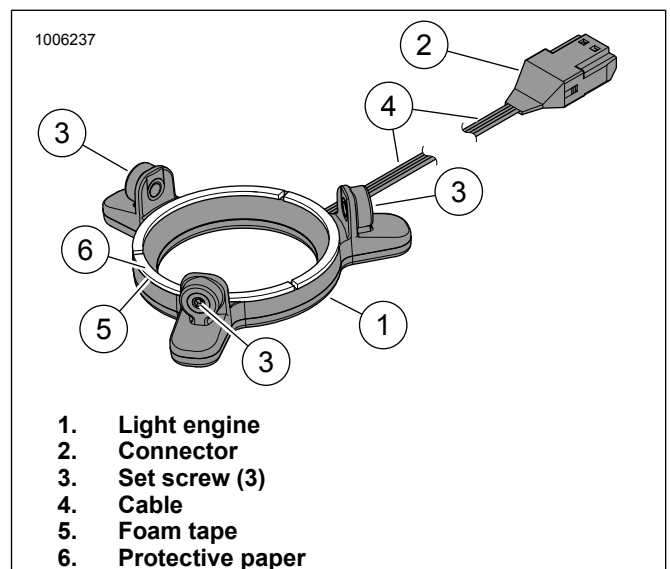

Figure 7. LED Light, Round Stage II Speaker
3. See Figure 7. Remove protective paper (6) from foam tape (5) on back of light engine (1).